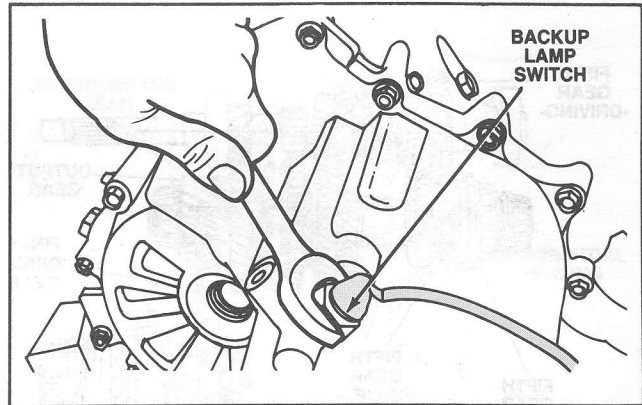

Figure 33 Backup Lamp Switch Removal
4. Remove the backup lamp switch. (Figure 33).